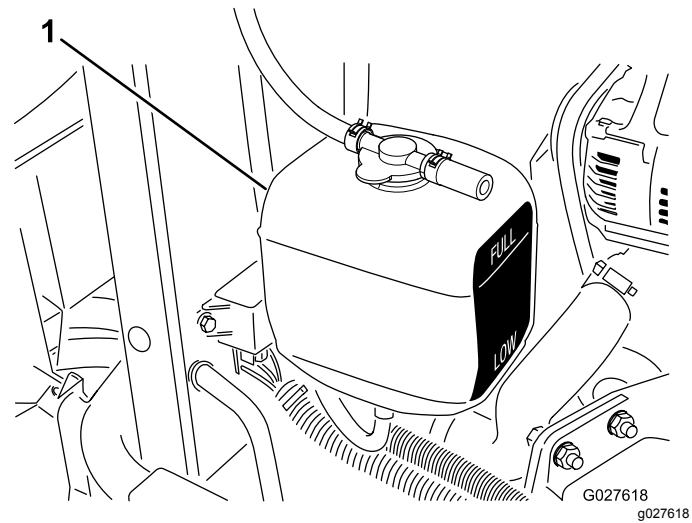

Figure 40
1. Check the coolant level in the expansion tank (Figure 40).